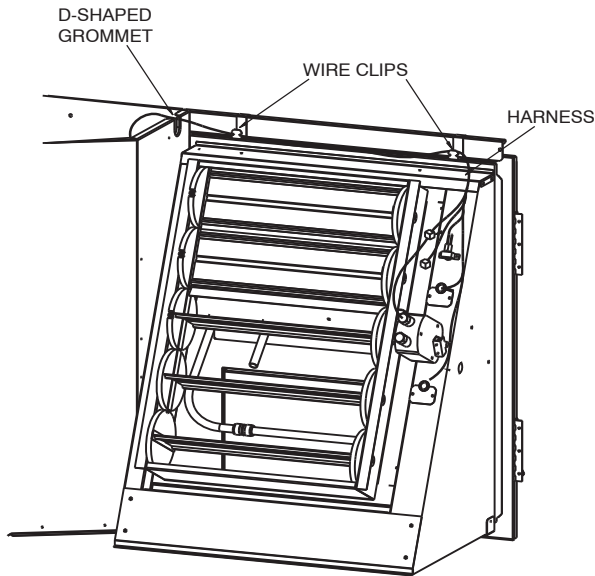

Fig. 11 – Harness Routing
- Remove D shaped grommet from partition located between compressor and return air section. Route lead (1/4-in. quick connect) end through U-shaped slot from indoor section side of partition into compressor section. (See Fig. 11.) From the control box access door route harness into hole located in the bottom of control box. Ensure that the wires do not come into contact with discharge refrigerant lines. Each wire is labeled with the termination point. Use labels and unit schematic located on the compressor access door to complete wiring. Reinstall grommet into slot to prevent outdoor air infiltration. From economizer side of unit route plug end of harness toward duct panel. Secure wire in the two clips located toward the top cover. (See Fig. 11.)